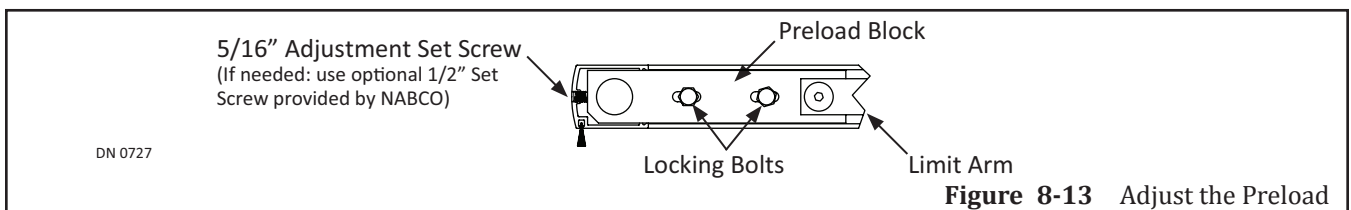

Figure 8-13 Adjust the Preload
3. Go to the Preload Block located inside Top Rail. Please see Figure 8-13.
4. Loosen (2) Locking Bolts.